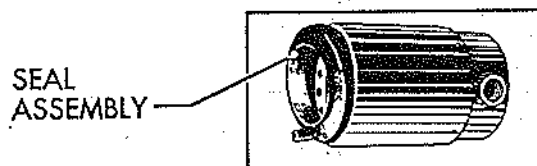

Figure 81
(8) Insert the seal assembly as shown in Fig. 81. Be careful not to damage the seal or other internal parts.